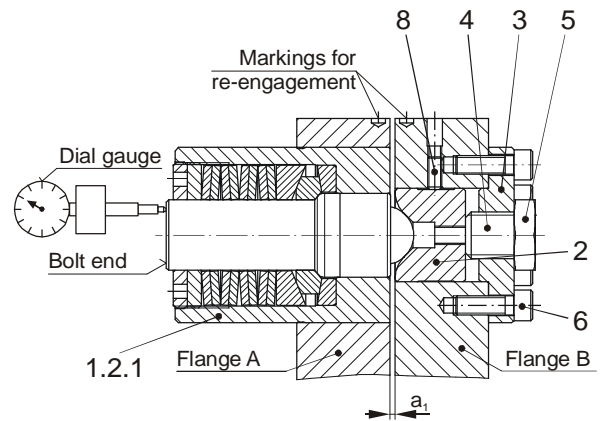

Fig. 5
- The EAS[®]-elements (1) and the thrust piece (2) or adaptor bushing (9) must be aligned exactly (Fig. 5).
- Pre-tension the element on Sizes 0, 1 and 2 by axially moving the thrust piece (2), which means by tightening the set screws (Item 4 / Fig. 5).
4. Counter the set screw (4) with the hexagon nut (5).
5. Secure the thrust piece (2) with the set screw (8).
7. Mark flanges A and B when the EAS[®]-elements are engaged, see Fig. 5. These markings assist in finding the correct angular position for re-engagement after overload.
On overload, the EAS®-elements disengage and remain disengaged. The flanges A and B turn against each other. In order to re-engage, both flanges A and B are turned to each other to the correct angular position, until the EAS®-element (1) and the thrust piece (2) or adaptor bushing (Item 9 / Fig. 4) align exactly (refer to the markings on the outside diameter of flanges A and B, Fig. 5).